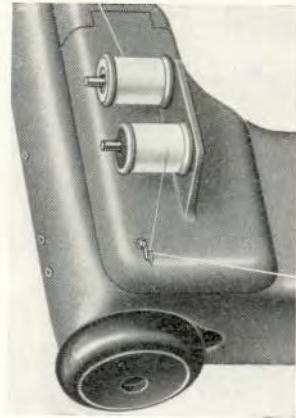

Fig. 39.
3. Open the door at the back of the machine (Fig. 39).